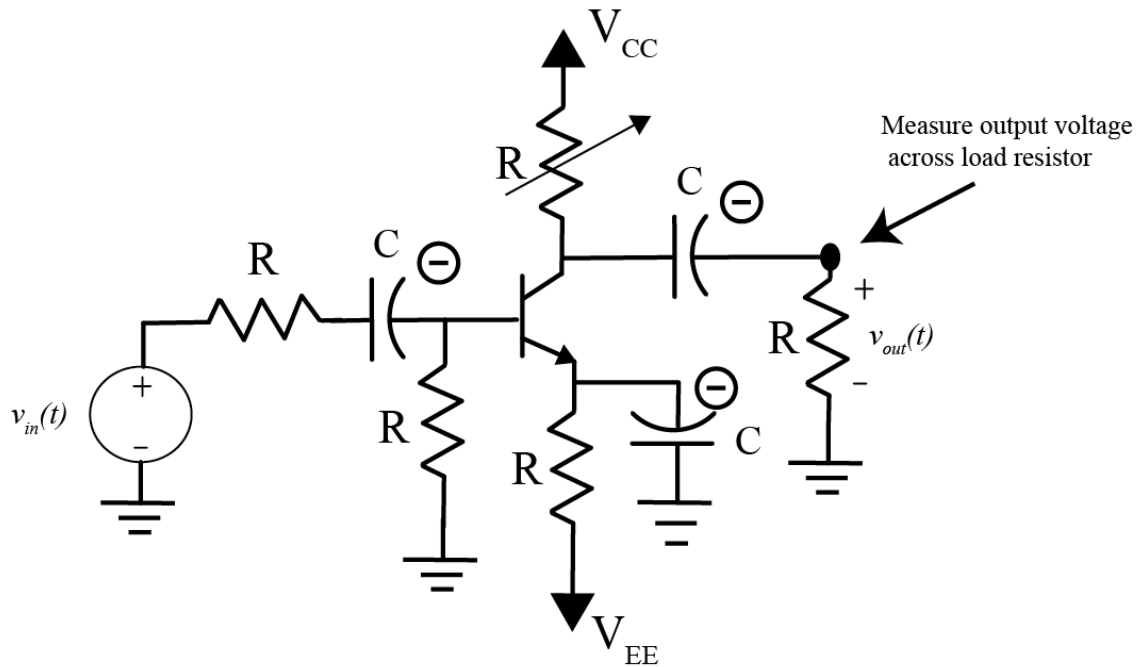

Figure 6. Final circuit. The input is AWG2 and the output is the voltage across the load resistor.
4) Turn the power off and finish building the circuit as shown in Figure 6. Not that the polarity of all of the capacitors, and that everything we are now connecting is connected to ground (not one of the voltage sources). The input signal will be the signal coming from AWG2. We will be measuring our output as the voltage across the load resistor.